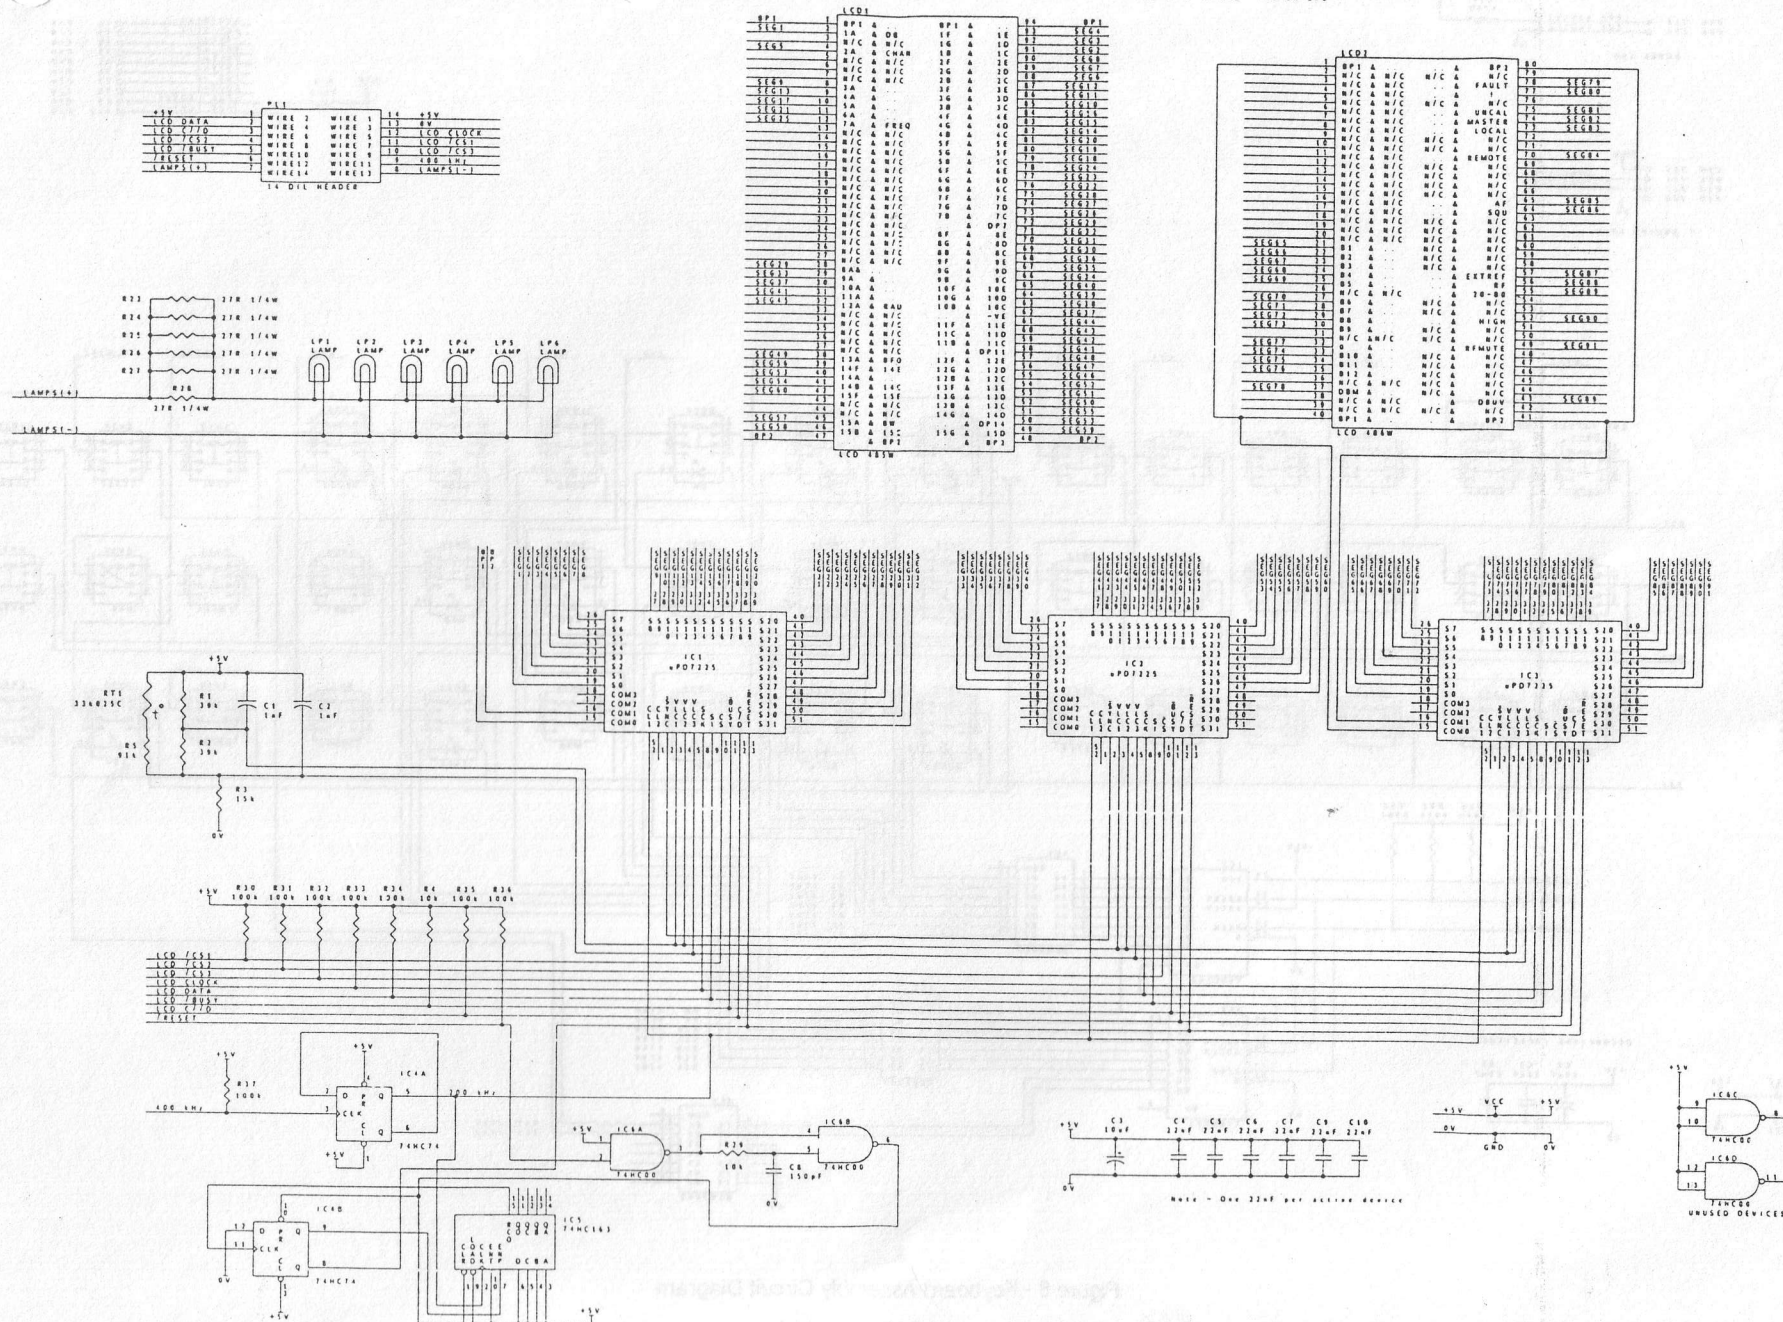

Figure 7 - Display Driver Board Circuit Diagram
- Figure 7 Digital Backplane Layout Diagram